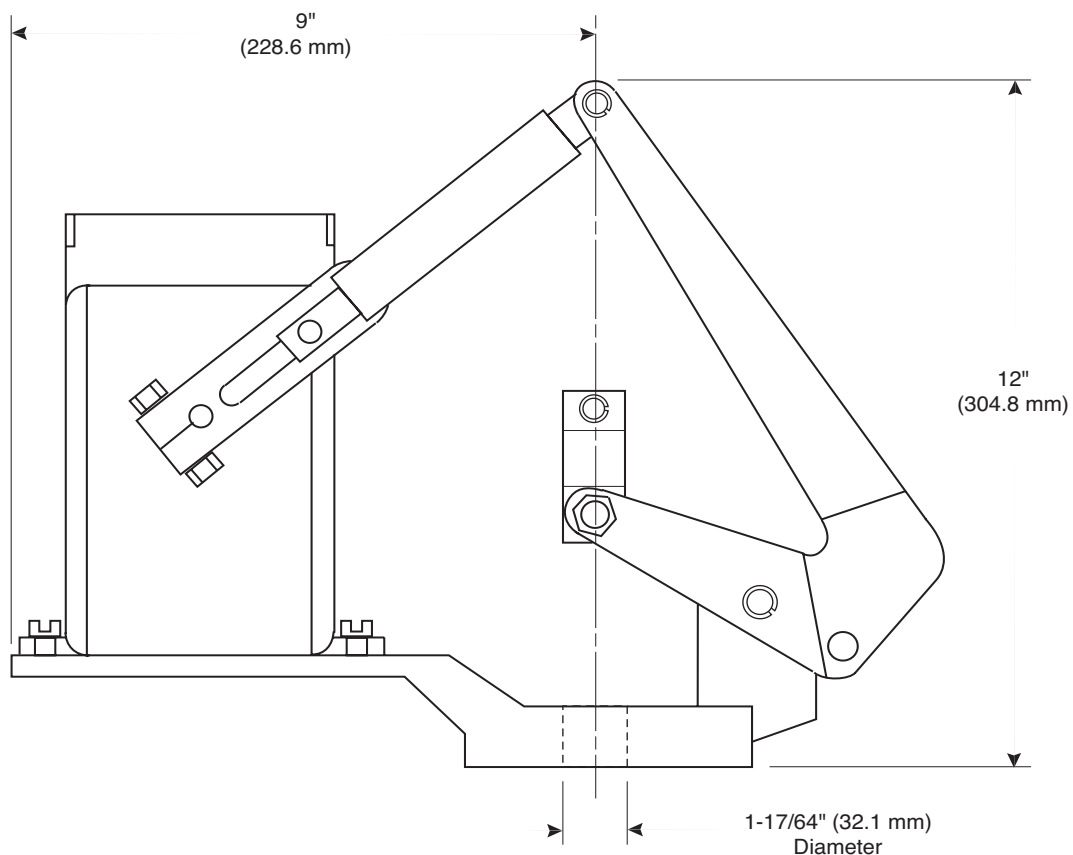

Figure-3 Mounting Dimensions of Valve Linkage Assembly.
- Refer to Figure-3 for mounting dimensions of the linkage assembly.
1. If the packing nut must be removed from the valve, first isolate the valve body, using shut-off valves, or reduce the system pressure on the valve to zero (0) psig. Then, drain all the fluid from the isolated or depressurized part of the system. Remove the packing nut from the valve.